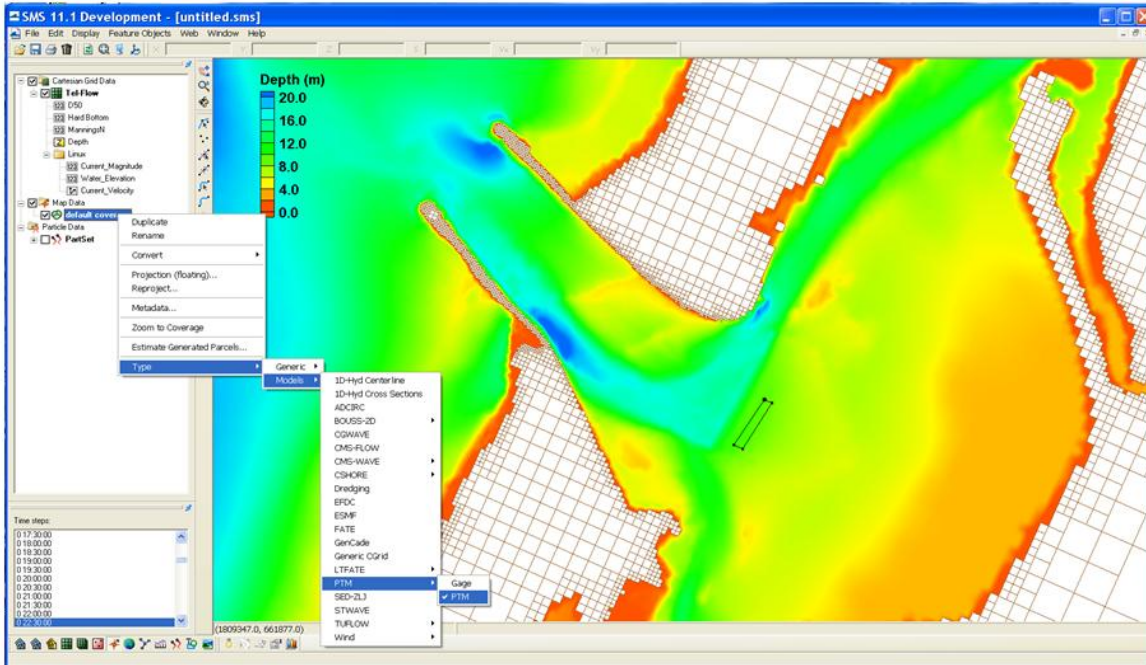

Figure 4. Link source file to CMS-PTM.
2. Right click *default coverage* and choose *Type / Models / PTM* after generating a point, a line or a polygon for the particle release (Figure 4),